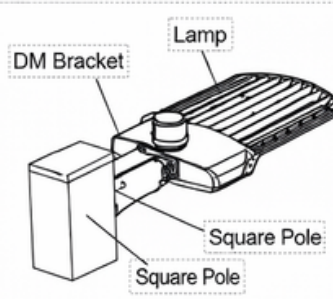

Figure 19
Step 2: Put the connected wire into the junction box, then cover the junction box. (Figure 19)
Notice: Adjustable angle is 0-35°(Figure 19)